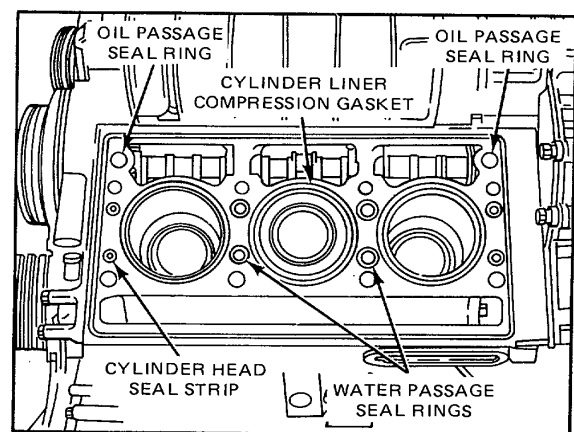

Figure 6. Cylinder Head Gaskets and Seals in Place on Cylinder Block
1. Refer to Fig. 6 and install the water and oil seal rings and compression gaskets as follows:
- b. Place new seal rings in the counterbores of the water and oil holes in the cylinder block. Silicone composition water hole seals can be damaged if they move out of position in the cylinder block counterbore during engine rebuild. In turn, damaged seals can allow engine coolant to contaminate lube oil and cause serious engine damage. To prevent this, a spray adhesive may be used to hold seals in place if the following precautions are taken: Figure 6. Cylinder Head Gaskets and Seals in Place on Cylinder Block